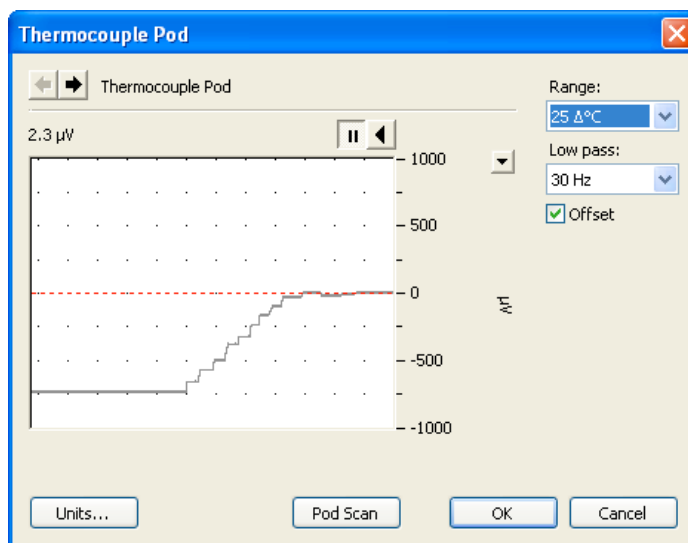

Figure 6.2 Adjusting the Thermocouple Pod output in Offset mode
6.2.4 In this experiment, the offset temperature mode of the Thermocouple Pod is used to measure temperature changes rather than absolute temperature. Using this mode, small temperature fluctuations can be measured with higher sensitivity by taking advantage of smaller temperature range settings. To switch to temperature offset mode, firstly choose **Thermocouple Pod...** under the Channel Functions pop-up menu. In the Thermocouple Pod dialog box, select the **Offset** radio box and an offset temperature range of $\Delta 25$ °C. Use the knob on the front of the thermocouple to adjust the signal to approximately 0. **Figure 6.2** shows a screenshot of this process.